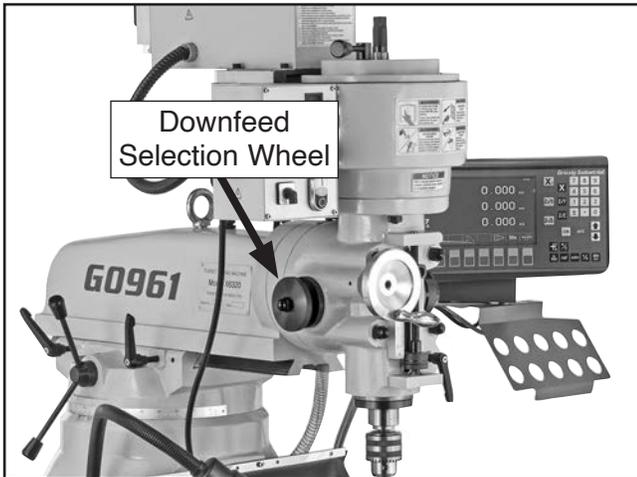

Figure 33. Downfeed selection controls.
2. Tighten downfeed selection wheel (see **Figure 33**) to engage fine downfeed handwheel.